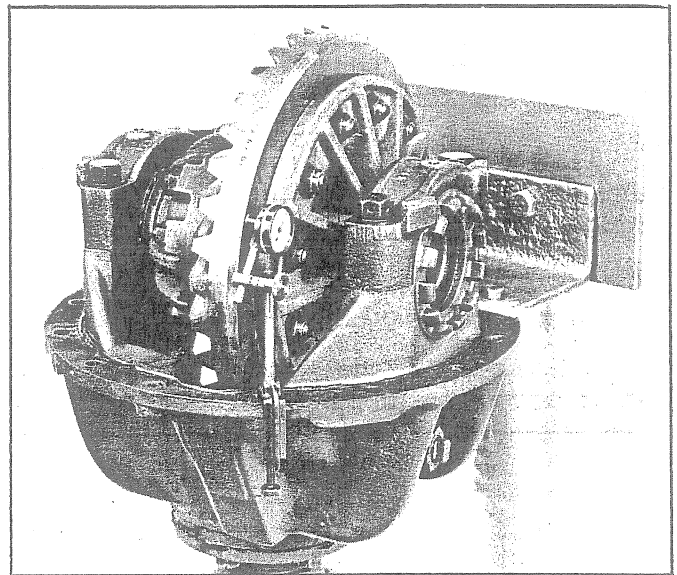

Fig. 69 - Checking Ring Gear Runout
22. Use a dial indicator, as shown in Fig. 69, to check back face of ring gear runout. Runout must not exceed .005 in. If runout is excessive, remove assembly and check for burrs or dirt under mounting surface of ring gear. Reassemble and recheck.